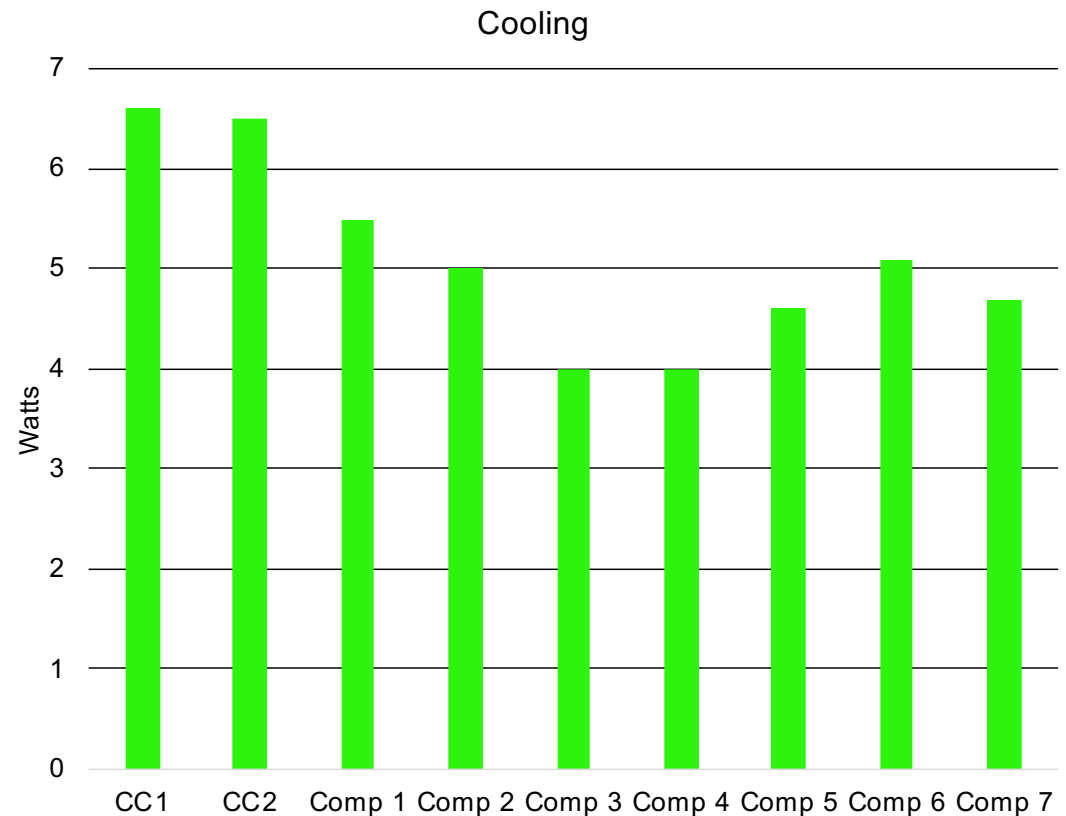

Figure 8. WATson Cooling Power of select Coolcore fabrics against market competition.
- Figure 8 displays the Cooling Power values of the nine materials tested.